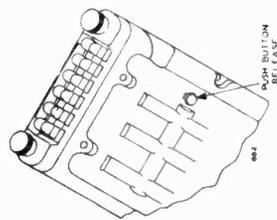

Fig. 2A—Bottom View of Remote Tuner Unit Showing Push Button Release Pin.
7. When the last pushbutton has been properly set up, it is necessary to release it from the latched-in position before the tuner mechanism can be locked. To release this pushbutton, press the pushbutton release pin on the bottom of the tuner unit. This will trip the latching mechanism and all the pushbuttons will be released to out position. (See Fig. 2A.)